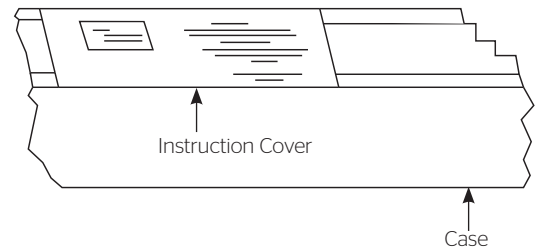

Figure 1
3. Remove instruction cover plate (Fig. 1). Do not remove wrapping paper until screen is installed.